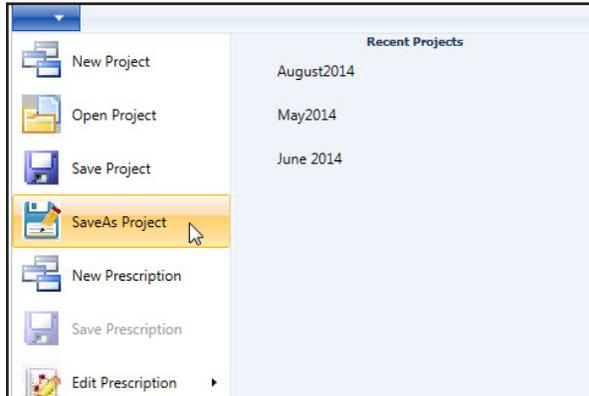

Figure 28-1 VRI Drop-down Menu
1. Click on the VRI drop-down menu, and select **SaveAs Project**. (Refer to Figure 28-1.)